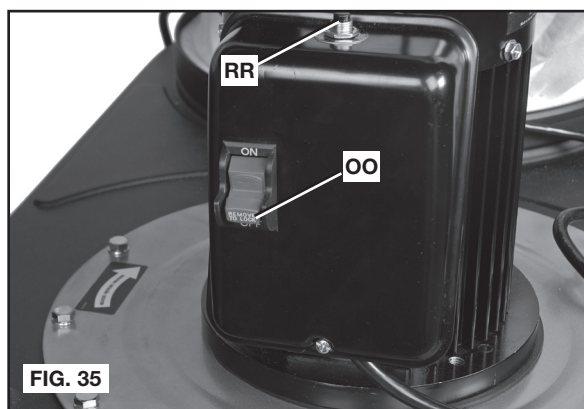

FIG. 35
LOCKING SWITCH IN "OFF" POSITION (FIG. 35, 36)
Your dust collector motor is supplied with a resettable circuit breaker. If the motor shuts off or fails to start due to an overload condition, turn the dust collector switch "OFF," let the motor cool three to five minutes, and push the reset button (RR) Fig. 35, on the circuit breaker to reset the breaker. The motor can then be turned on again in the usual manner. If the overload continues to trip, visit our website at www.deltamachinery.com for a list of service centers or call the DELTA Machinery help line at (800) 223-7278 (In Canada call (800) 463-3582).